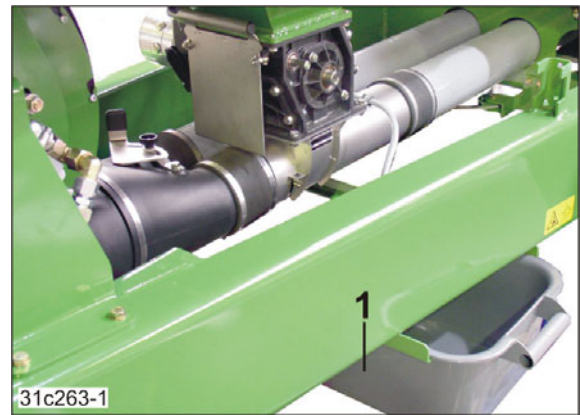

Fig. 186
3. Insert the calibration trough (Fig. 186/1) into the holder beneath the metering unit.